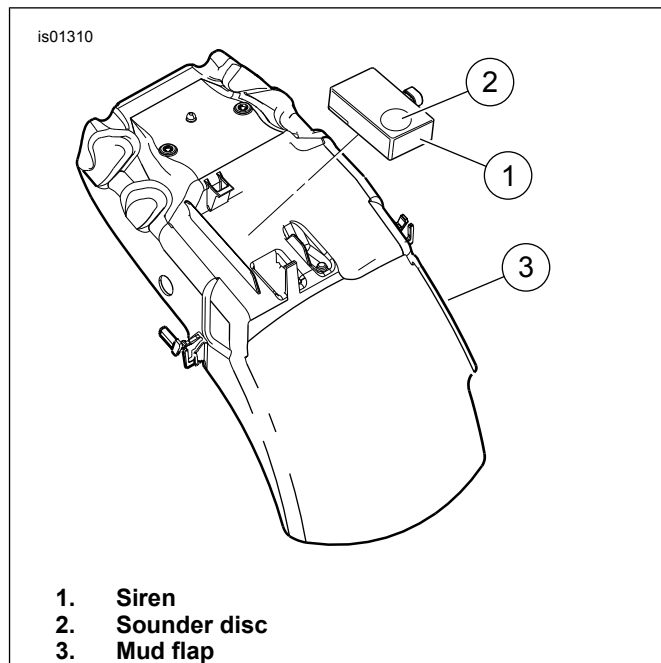

Figure 8. Secure Siren Box (2006-2007 VRSCR Models)
7. See Figure 8. With the sounder disc (2) facing out, clip the siren (1) onto the mud flap (3) as shown.